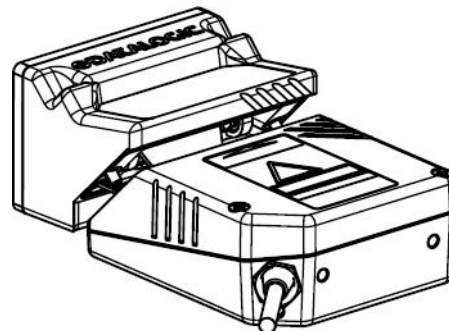

Figure 31 –Mount OM2000N
- 4) Check that the seal is correctly positioned and then after having aligned the OM2000N onto the scanner, fix it using the two screws (see Figure 31).